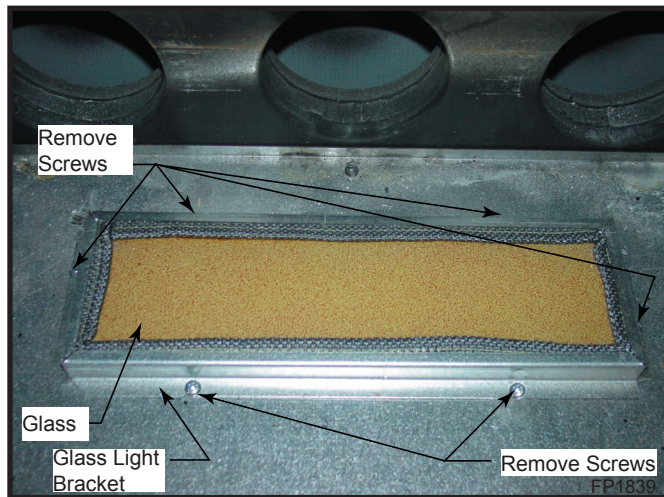

Fig. 56 Remove glass light brackets.
7. Remove the six (6) screws securing the glass light brackets to the firebox bottom. (Fig. 56)